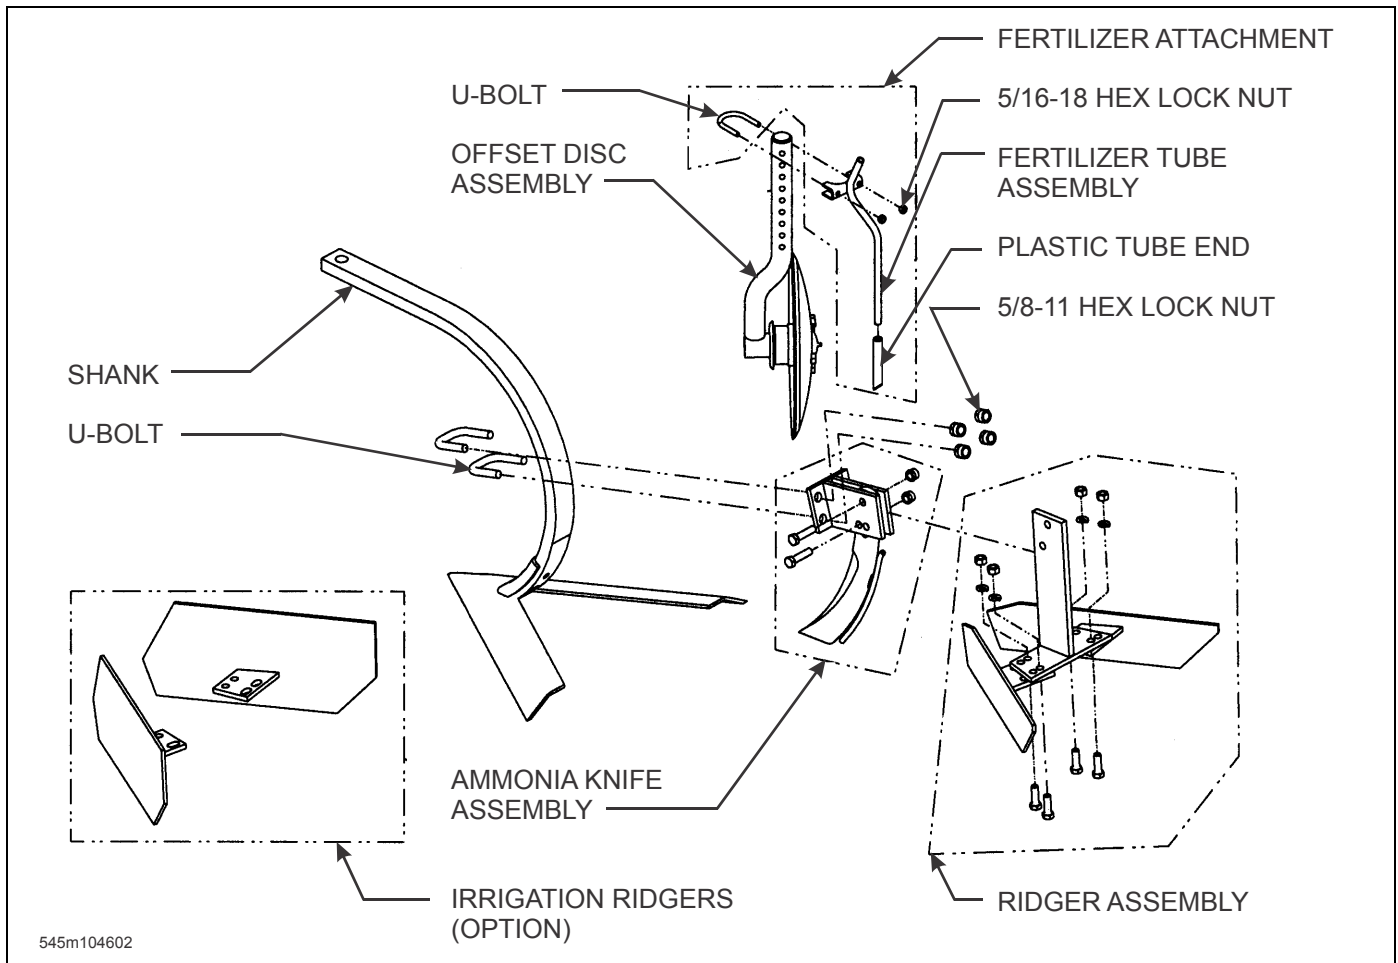

Figure 3-7: Optional Accessories Installation
2. Assemble a shank clamp (See Figure 3-7) to the rear of each shank. Secure the bracket with u-bolts and 5/8-11 hex lock nuts.
1. The ammonia knives are mounted in the same manner as the ridgers. They cannot be used at the same time the ridgers are being used (See Figure 3-7.)
1. The fertilizer tubes should be mounted on the disc shaft assemblies. Secure with a u-bolt and 5/16-18 hex lock nuts (See Figure 3-7.)